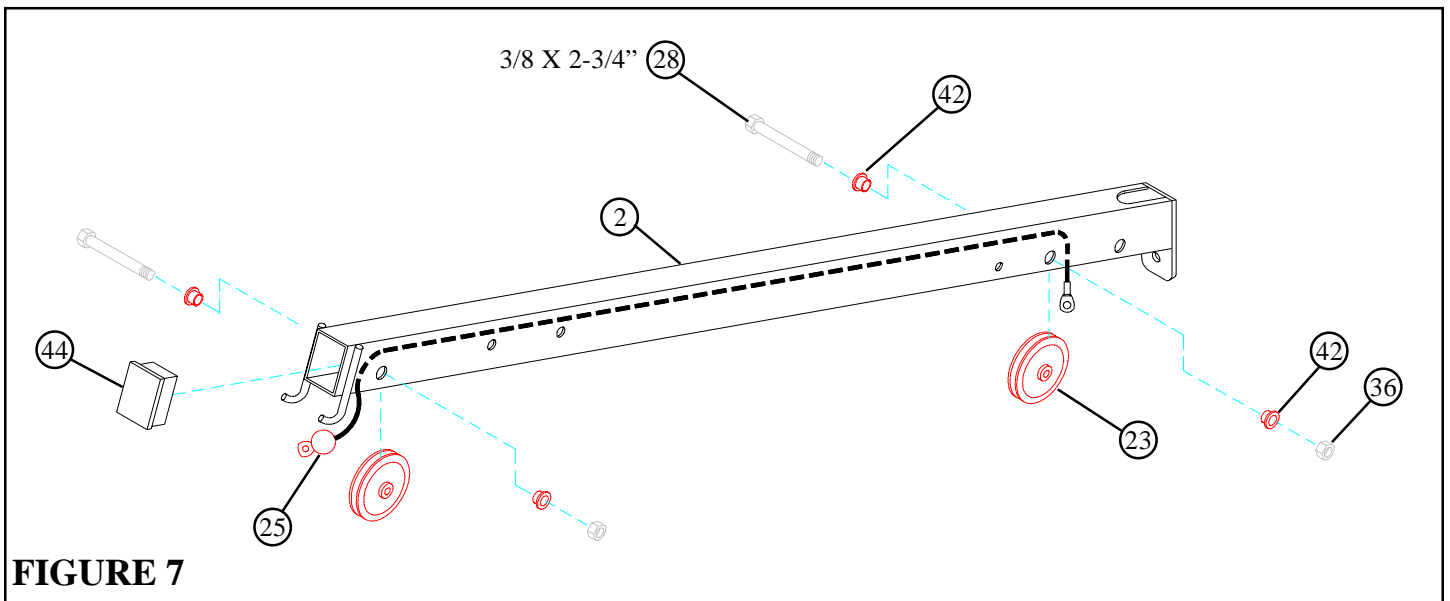

**FIGURE 6**
- Pull back the SPRING PIN and slide the SAFETY RAILS (9) over the UPRIGHTS (5) until the SPRING PIN is engaged in the first hole.
- Slide the CARRIAGE (3) over the UPRIGHT FRAME (1) as shown in FIGURE 6.